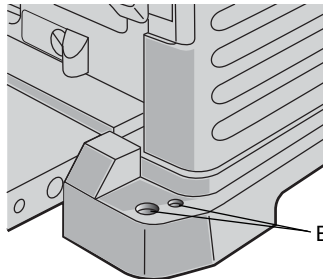

FIG. 5
1. Insert the crank handle (F) over the shaft (Fig. 5).